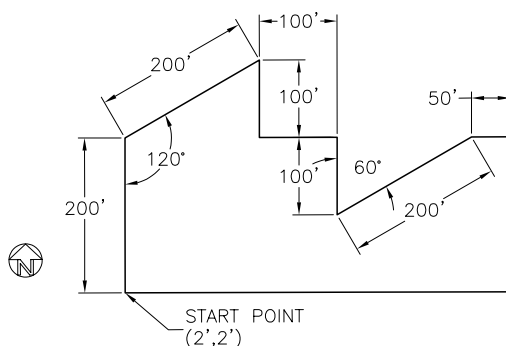

Figure 2-53 Drawing for Example 5
In this example, you will set units for a drawing based on the specifications given below and then draw Figure 2-53.
- With the units set, you need to draw Figure 2-53 using the relative polar coordinates. The prompt sequence to complete the sketch is as follows: